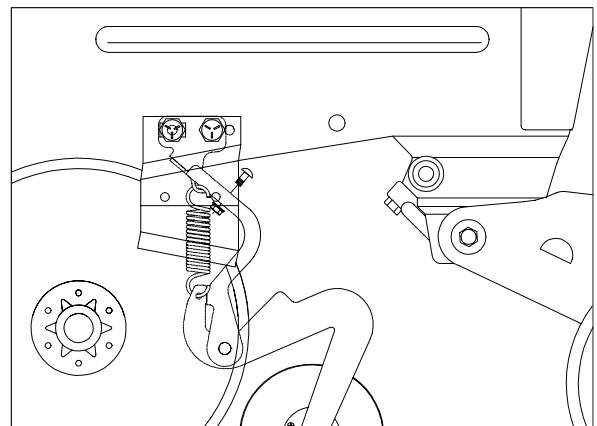

Figure 8
5. Place the Seed-Lok™ assembly (#11) on the bottom side of the Seed-Lok™ mount (#3) & insert the 1 1/4 carriage bolts & flanged nuts (#21), and (#20) see Figure 8.